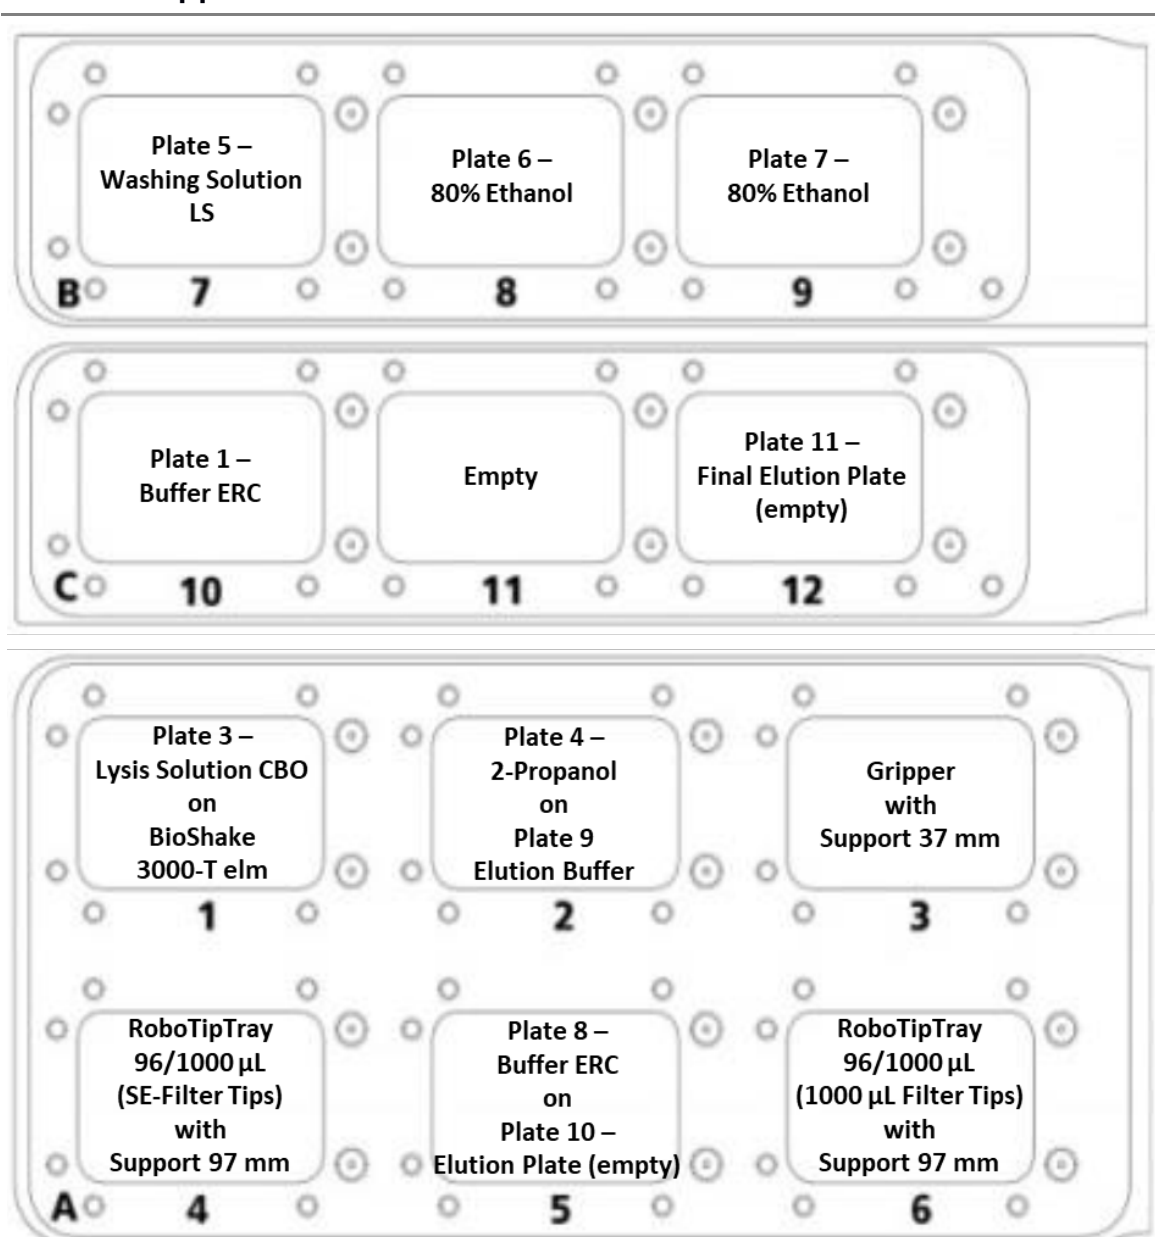

Figure 3: Deck layout for the extraction of 200–500 µL sample material.
3. Place all required plates and accessories onto the CyBio FeliX decks according to **Figure 3**. As a final Elution Plate (**deck position 12**) multiple options are possible: